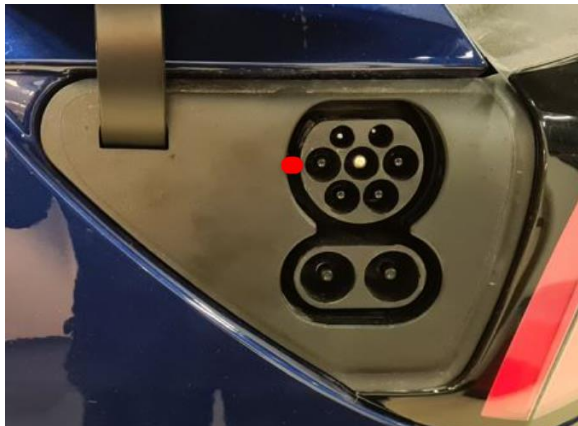

Figure 1 – Measurement location in red
2. Insert a digital caliper next to the LH side of the Type 2 charging inlet near the location of the latch pin, which is horizontally aligned with the top three AC connectors of the charge port (Figures 1 and 2).
- Insert a digital caliper on the LH side of the Type 2 charging inlet at the location of the latch pin, which is horizontally aligned with the top three AC connectors of the charge port (Figures 1 and 2).